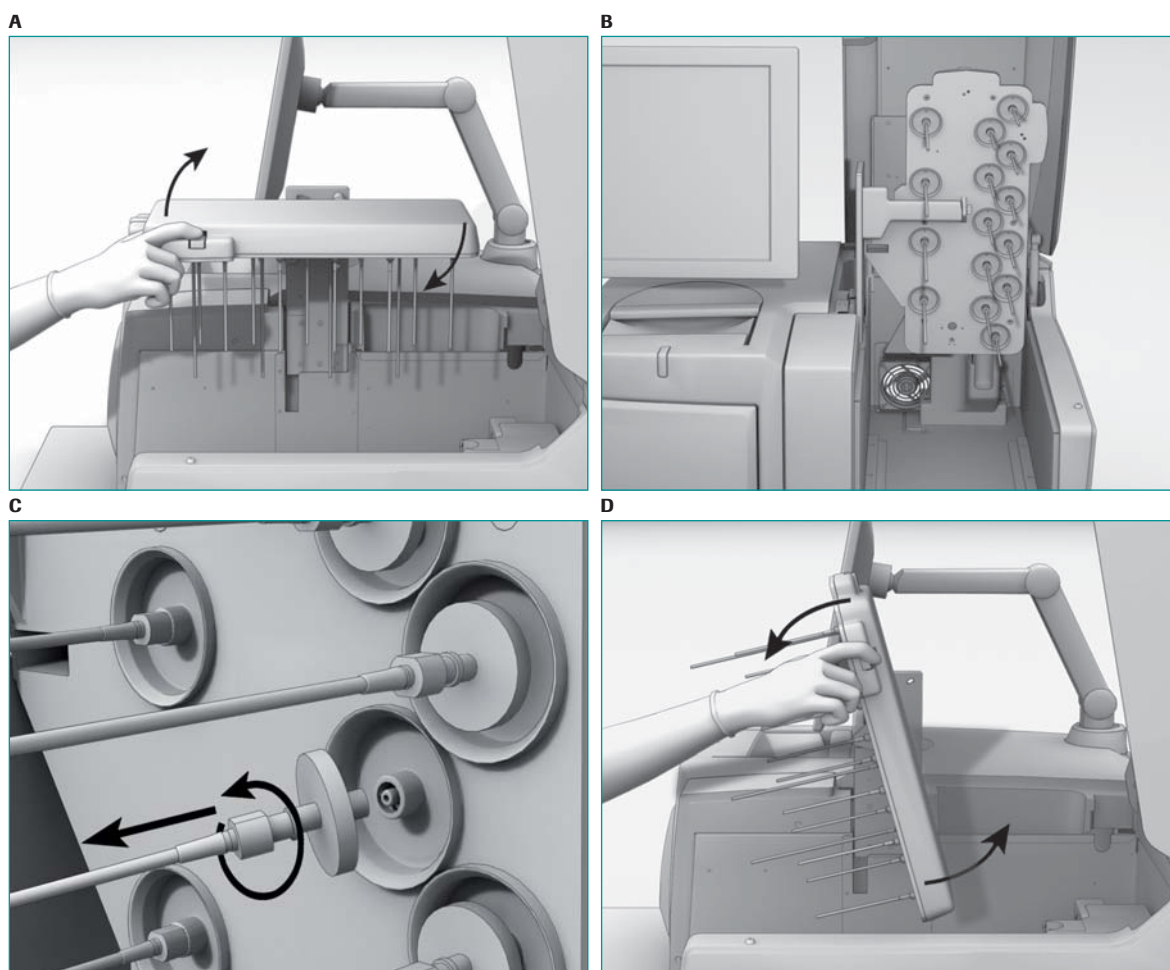

Figure 3–3: Replacing Sipper Tubes
- 7 When all the Sipper Tube exchanges are complete, rotate the sipper manifold back to its normal horizontal position by pressing button **B** on the sipper manifold (Figure 3–3D).